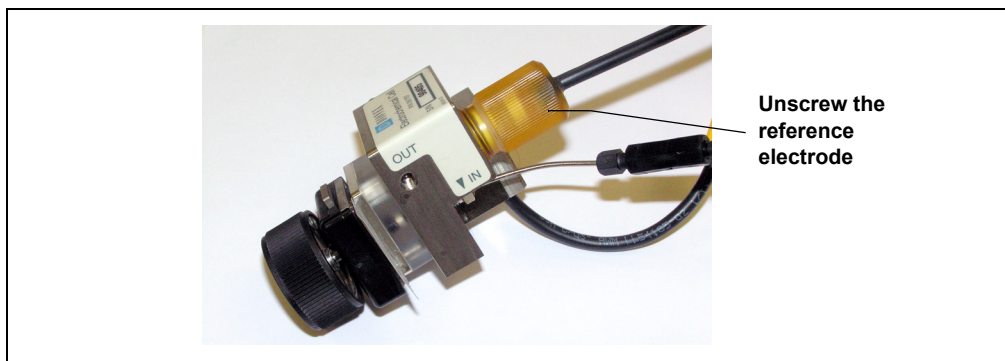

*Figure 9-39. Reference Electrode O-Ring*
- Verify that the reference electrode O-ring is present (see Figure 9-39) and then screw the reference electrode into the reference electrode cavity.